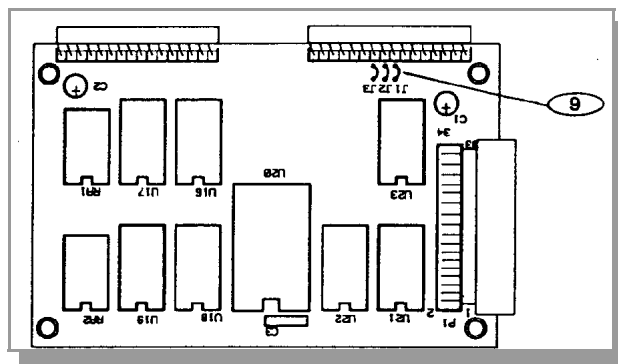

Figure 1-4 Display Printed Circuit Board.
3. With the plate removed you will see the display printed circuit board (Figure 1-4). Locate **9**, jumpers J1, J2, and J3.